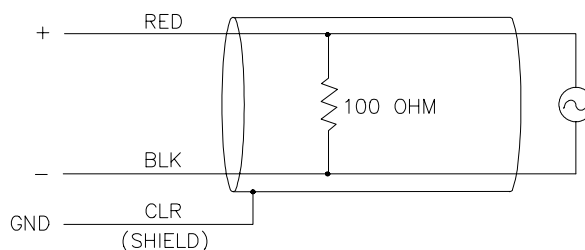

Figure 1. LI200S Schematic
The LI200S (refer to Figure 1) outputs a low level voltage ranging from 0 to a maximum of about 12mV depending on sensor calibration and radiation level. A differential voltage measurement (Instruction 2) is recommended because it has better noise rejection than a single-ended measurement.
-Sensor Calibration: Assume the sensor calibration is 87 microamps $\text{kW}^{-1} \text{m}^{-2}$. The LI200S outputs amperage which is converted to voltage by 100 ohm shunt resistor in the cable, as shown in Figure 1. To convert the calibration from microamps to millivolts, multiply the calibration by 0.100. The example calibration changes to 8.7 $\text{mV} \text{kW}^{-1} \text{m}^{-2}$.